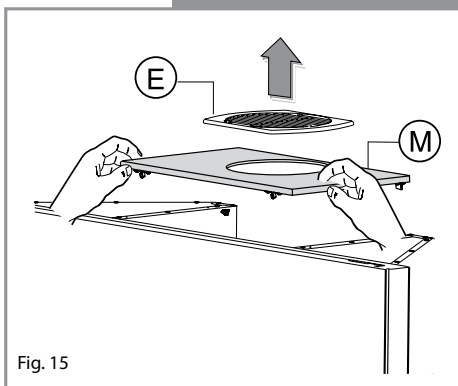

Fig. 15
Remove the top cover (E) and vent outlet (M), as shown in figure 15.